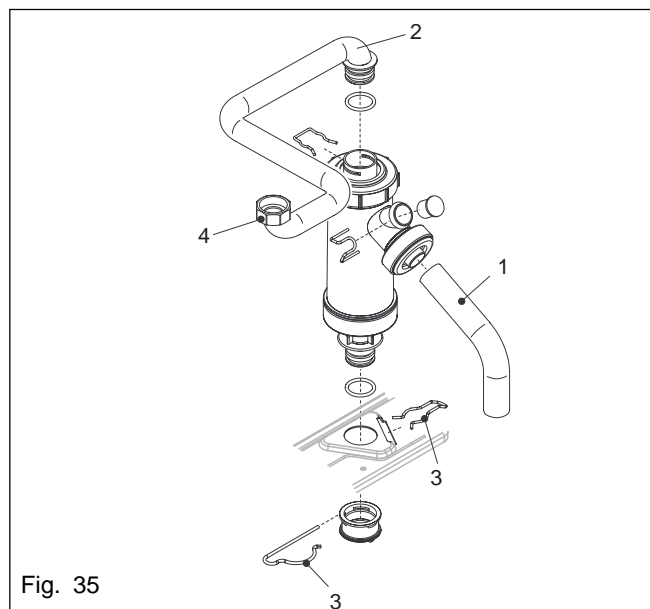

Fig. 35
6.22 CONDENSE TRAP REMOVAL (see fig. 35)